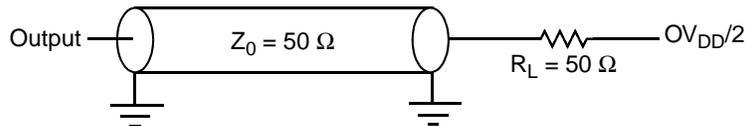
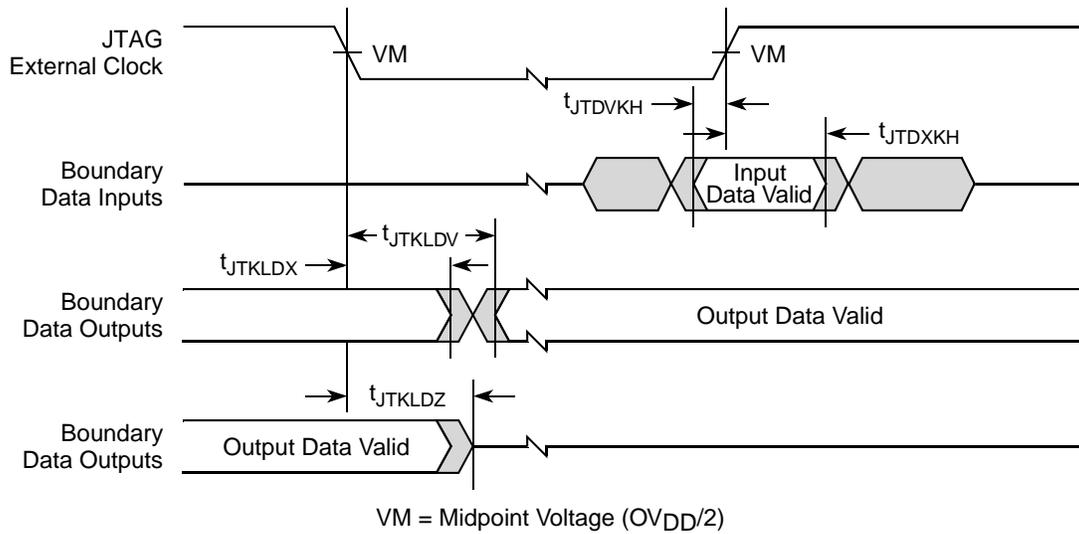

Figure 34. AC Test Load for the JTAG Interface
Figure 37. Boundary-Scan Timing Diagram
Table 50 provides the JTAG AC timing specifications as defined in Figure 34 through Figure 37.
1. All outputs are measured from the midpoint voltage of the falling/rising edge of t_{TCLK} to the midpoint of the signal in question. The output timings are measured at the pins. All output timings assume a purely resistive 50-Ω load (see Figure 34). Time-of-flight delays must be added for trace lengths, vias, and connectors in the system.
2. The symbols used for timing specifications follow the pattern of $t_{(first\ two\ letters\ of\ functional\ block)(signal)(state)(reference)(state)}$ for inputs and $t_{(first\ two\ letters\ of\ functional\ block)(reference)(state)(signal)(state)}$ for outputs. For example, t_{JTDVXH} symbolizes JTAG device timing (JT) with respect to the time data input signals (D) reaching the valid state (V) relative to the t_{JTG} clock reference (K) going to the high (H) state or setup time. Also, t_{JTDVXH} symbolizes JTAG timing (JT) with respect to the time data input signals (D) went invalid (X) relative to the t_{JTG} clock reference (K) going to the high (H) state. Note that, in general, the clock reference symbol representation is based on three letters representing the clock of a particular functional. For rise and fall times, the latter convention is used with the appropriate letter: R (rise) or F (fall).
Figure 34 provides the AC test load for TDO and the boundary-scan outputs.
Figure 37 provides the boundary-scan timing diagram.